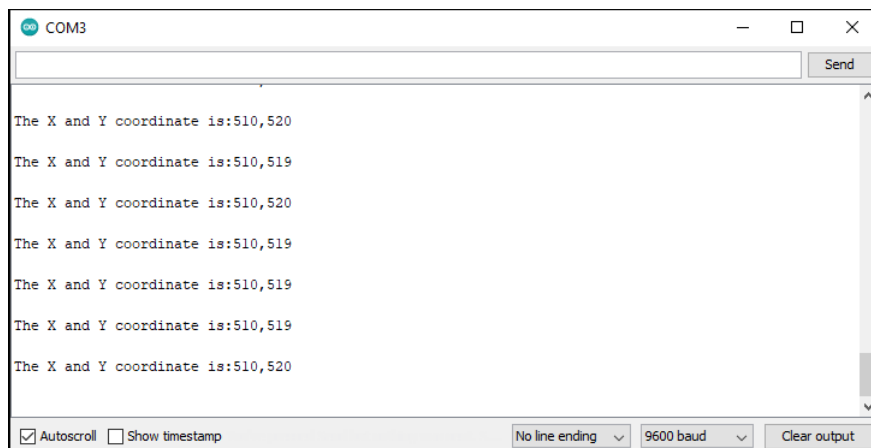

Figure 12.1: Arduino Settings
11. Now open the serial monitor and play with the joystick. You should see **X** and **Y** values change as you play with the joystick as shown in Figure 12.1.